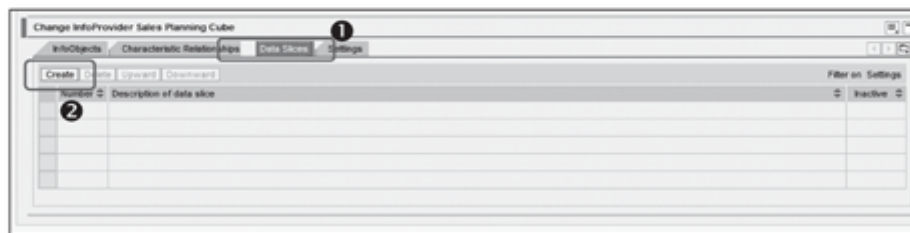

Figure 12.23 Creating Data Slices
1. Data slices are created on the INFOPROVIDER tab of the Planning Modeler. Click on the DATA SLICES tab page of the selected InfoProvider, as shown in ❶ of Figure 12.23.
2. Click on the CREATE button to create a new data slice (❷ of Figure 12.23)